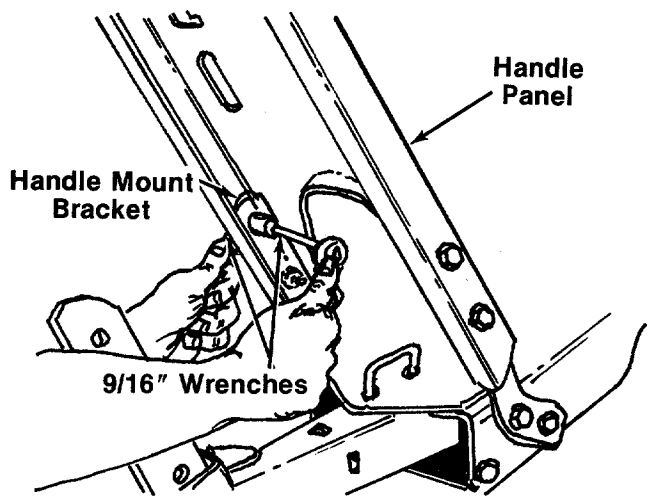

FIGURE 10.
Secure handle panel with four hex bolts (L), lock washers (N) and hex nuts (O). Lock washers and hex nuts are tightened from the inside of handle panel. Tighten securely. See figure 10.